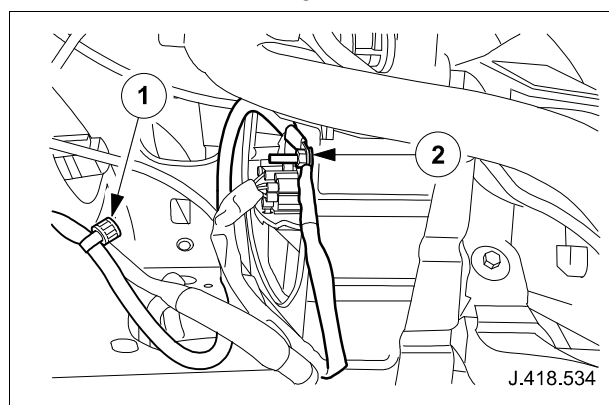

Fig. 22
- 4.9.1 Remove harness-retaining clip (item 1, Fig. 22) from FH42 ground point. Check FH42 grounding point securing nut (item 2, Fig. 22) is tight (torque tighten to 12Nm \pm 1.8Nm). Re-install harness-retaining clip.